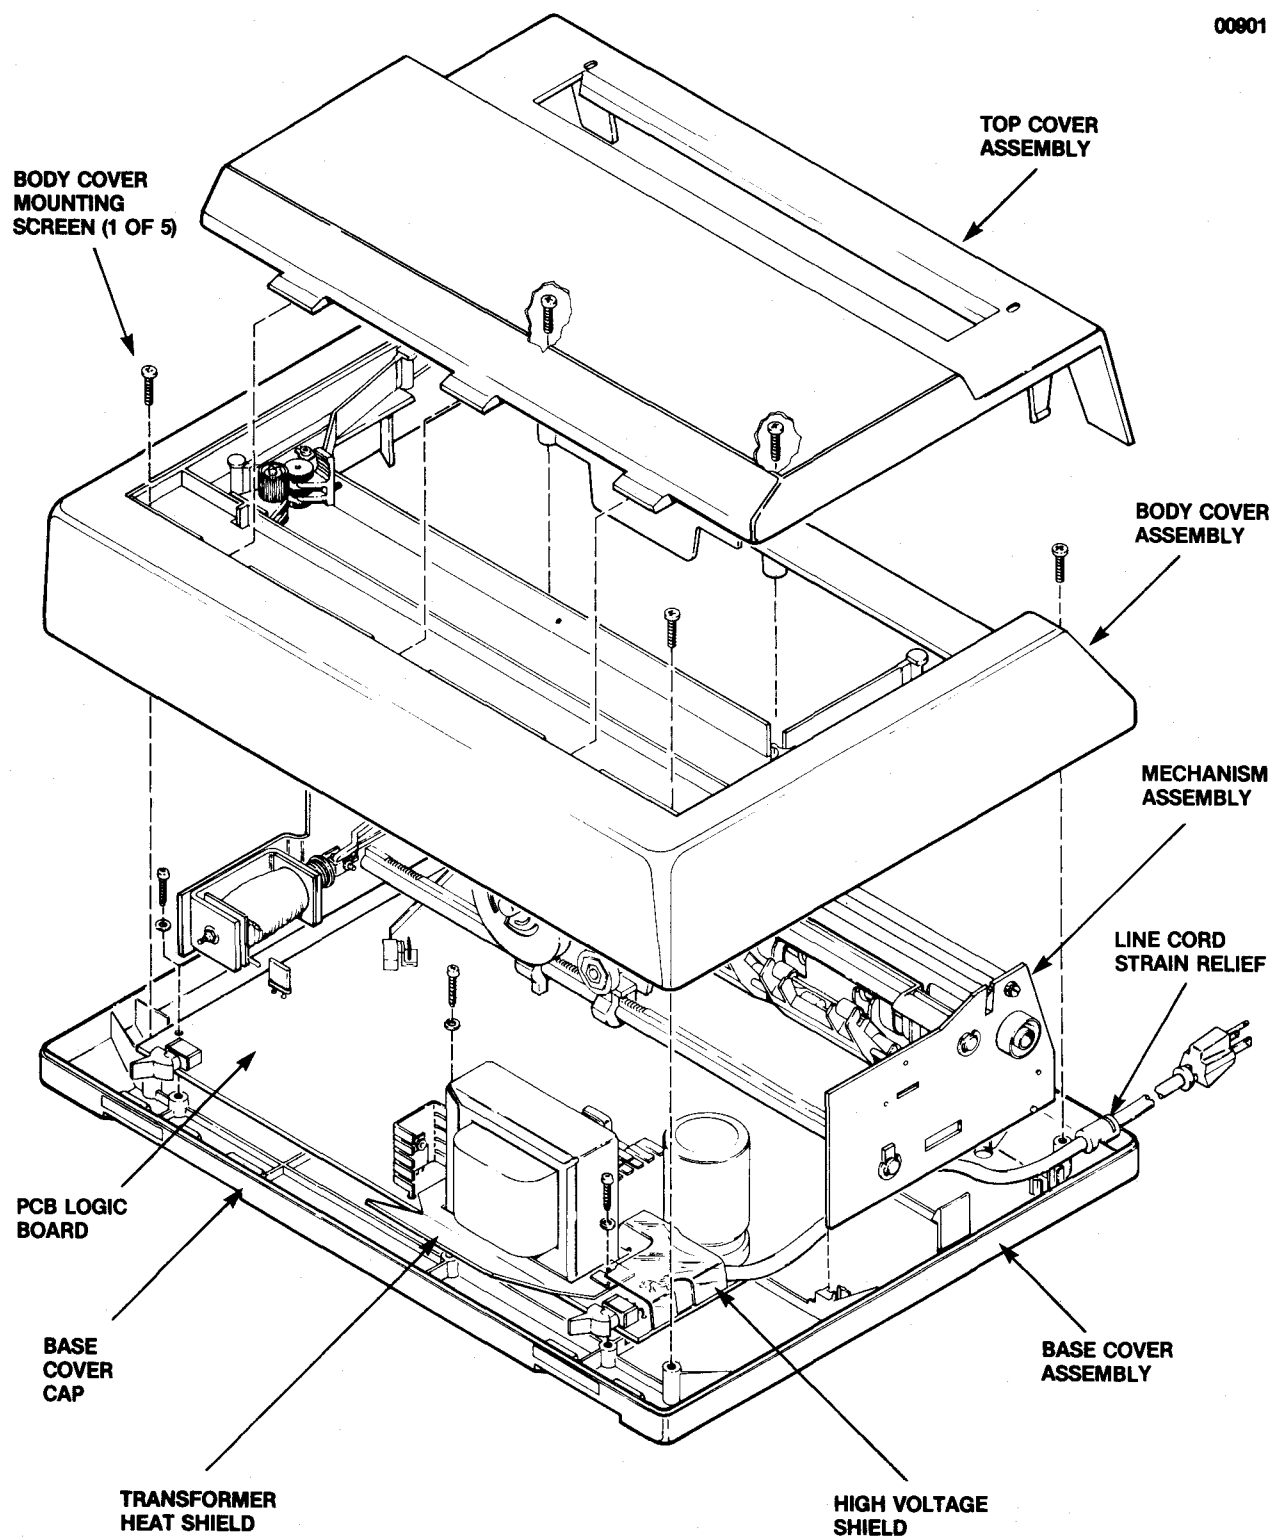

Figure 6-5. BASE AND BODY COVER ASSEMBLY REPLACEMENT
**6.6 BASE COVER ASSEMBLY (See Figure 6-5)**
**6.7 BODY COVER ASSEMBLY (See Figure 6-5)**